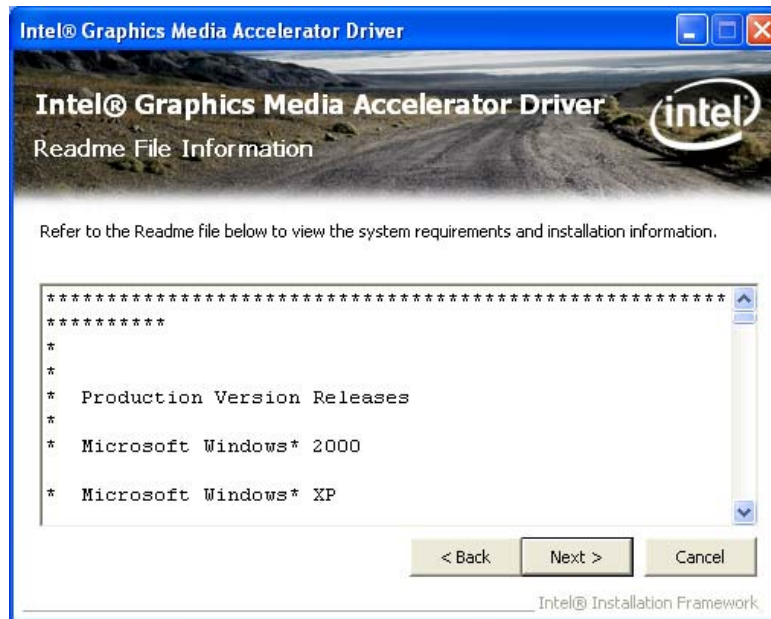

Figure 7-11: Graphics Driver Read Me File
Step 12: The Read Me file in Figure 7-11 appears.